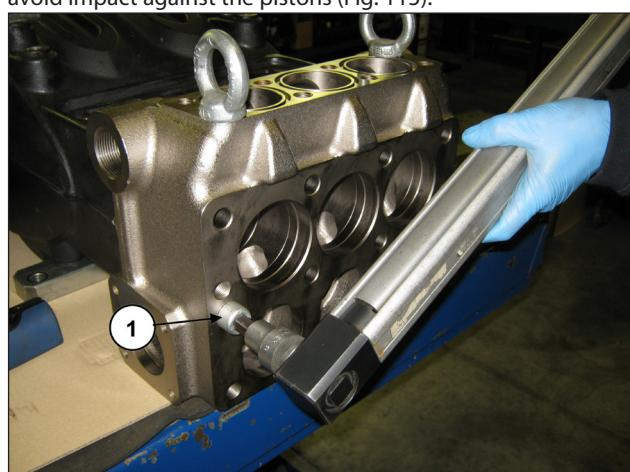
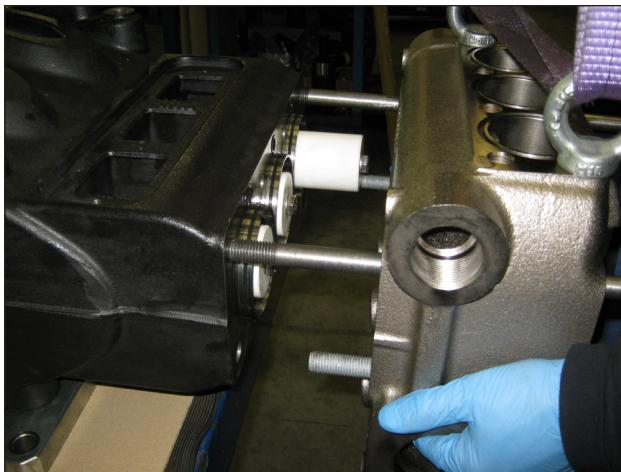

Fig. 114
Fig. 115
It is now possible to remove the head from the pump casing, unscrewing the 2 M16x180 screws (pos. ①, Fig. 114). During disassembly of the manifold, pay special attention to avoid impact against the pistons (Fig. 115).